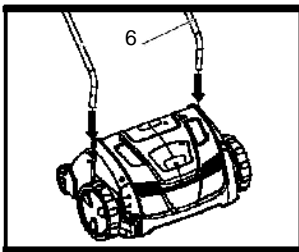

Fig. 1a
- a). Align the lower handle bars (6) with the supports (8). Make sure the holes in the lower handle bars correspond with those in the supports (8) and secure the bars with one screw (7) each to the support (8). (See Fig. 1a, 1b).